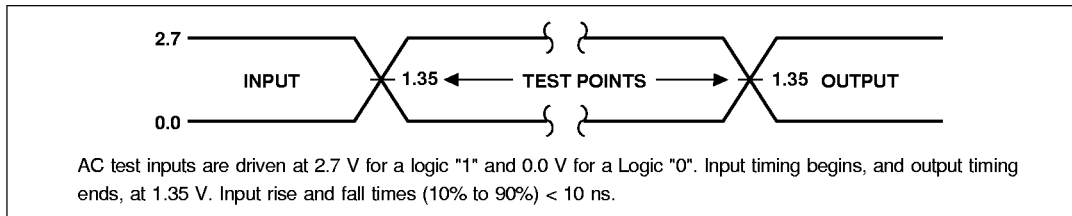
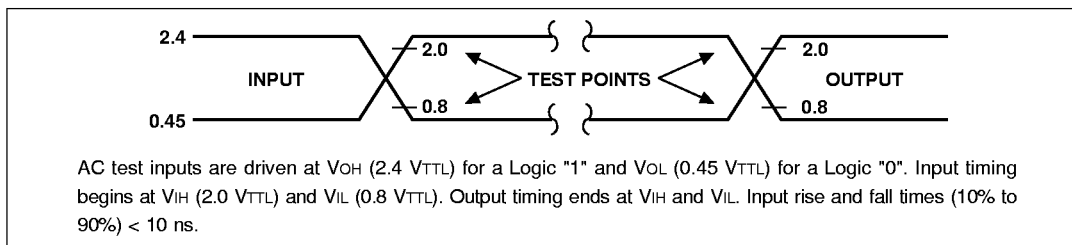

Fig. 9 Transient Input/Output Reference Waveform for $V_{CC} = 2.7$ to 3.0 V
Fig. 11 Transient Input/Output Reference Waveform for $V_{CC} = 5.0 \pm 0.5$ V (Standard Testing Configuration)
1. See AC Input/Output Reference Waveform (Fig. 9 through Fig. 11) for maximum allowable input slew rate.